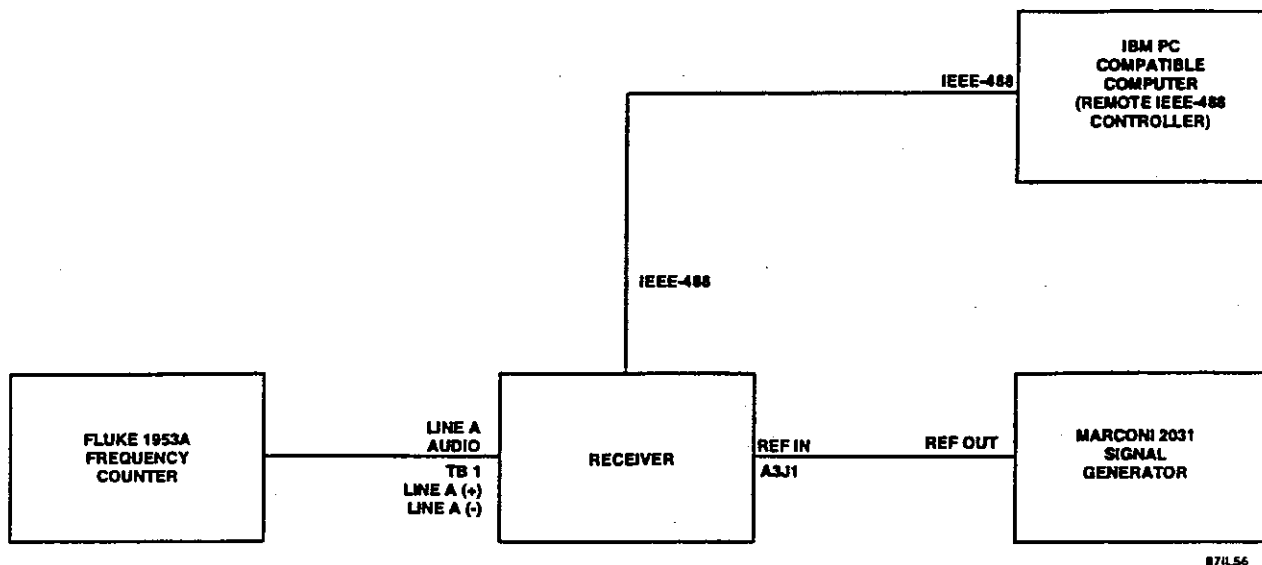

Figure E-6. IEEE-488 Performance Test Equipment Connections
1. Connect the receiver and test equipment as illustrated in Figure E-6.